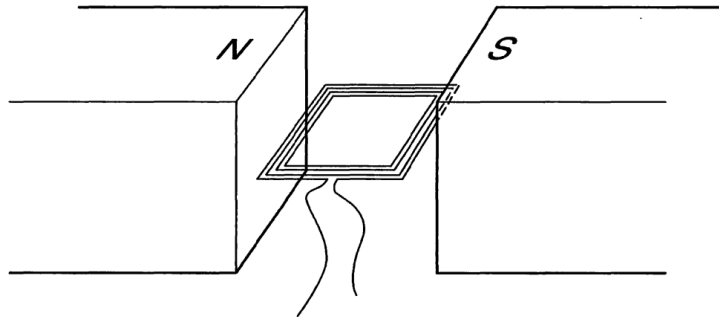

Fig. 6.5
- (c) Fig. 6.5 shows a simple alternating current generator, consisting of a coil of 500 turns rotating at a constant frequency of 50 Hz in a uniform magnetic flux density 5.0×10^{-2} T. The coil has an area of 2.5×10^{-2} m².